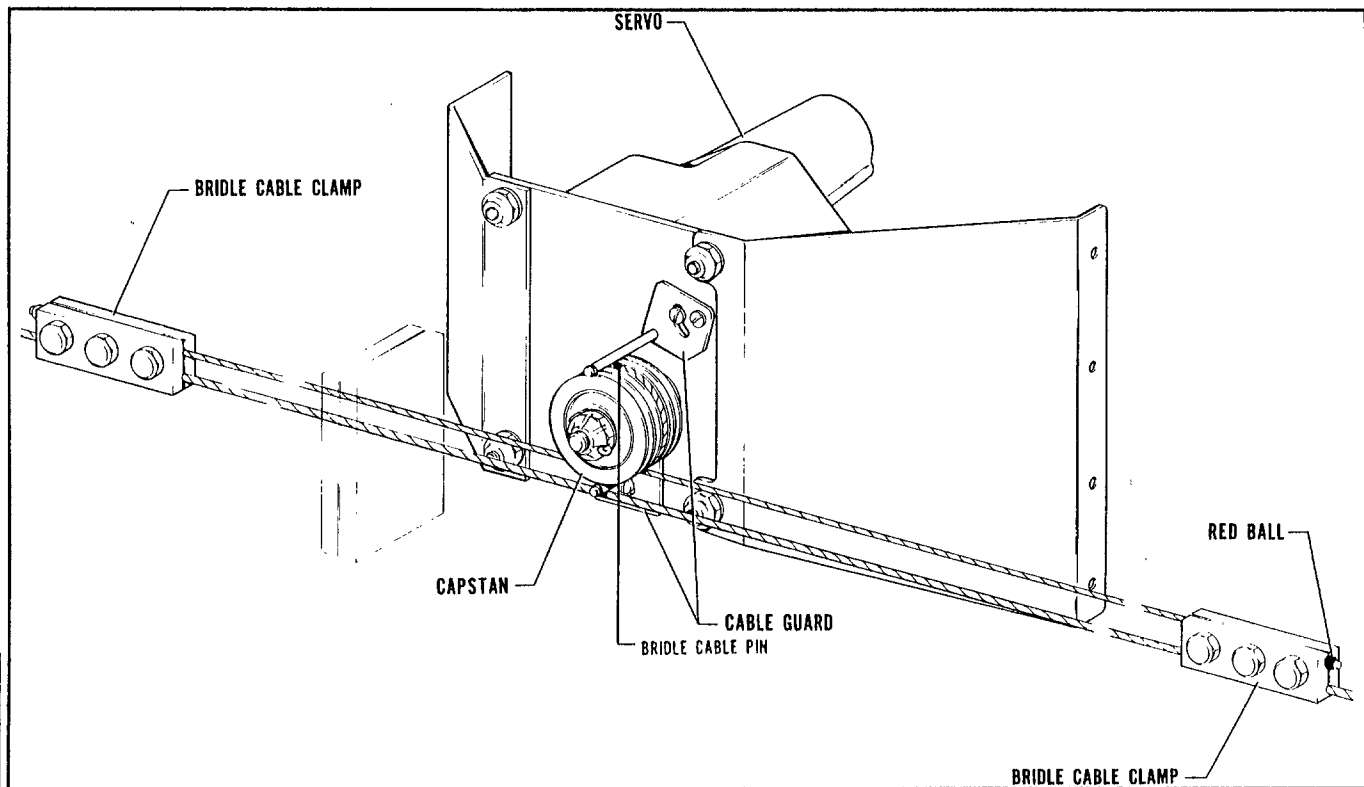

Figure 3-22. Roll Servo Installation, PA-31-310,
3-46. INSTALLATION OF ROLL SERVO. (PA-31-310, PA-31-325, PA-31-350 and PA-31P) (Refer to Figure 3-22.)
e. REFER TO FIGURE 3-8 AND CHECK THAT THE CONTROL CABLE TENSION (Z) IS ADJUSTED TO  $35 \pm 2$  POUNDS PRIOR TO ATTACHING THE BRIDLE CABLE CLAMPS. Ascertain area on cable where clamp attaches is clean, dry and free of all lubricants and anti-corrosive additives. Attach the bridle cable to the aileron control cable. The bridle cable is drawn to the aileron control cable and attached with clamps at the previously painted locations on the control cable. The end of the bridle cable with the red ball extends to the inboard section of the wing. (Should the aileron cable not be painted, position the control wheel in neutral and align the bridle cable pin installed in the capstan as shown in Figure 3-22.) Adjust the bridle cable clamps so that the bridle cable tension (Y) is equal to the control cable tension between the bridle cable clamps (X)  $17 \pm 2$  pounds without increasing the control cable tension from the bridle cable clamps outward. At no time shall the bridle cable tension be greater than the control cable tension between the clamps. Adjusting the bridle cable tension will lower the control cable tension between the two bridle cable clamps. Torque the bridle cable clamp bolts to  $55 \pm 5$  inch pounds.